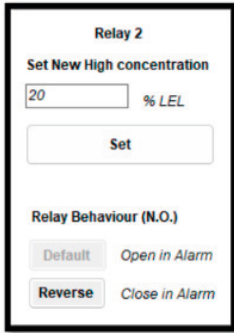

Figure 10a
1. In the Relay 2 console type the new %LEL concentration and click Set button (Figure 10a)